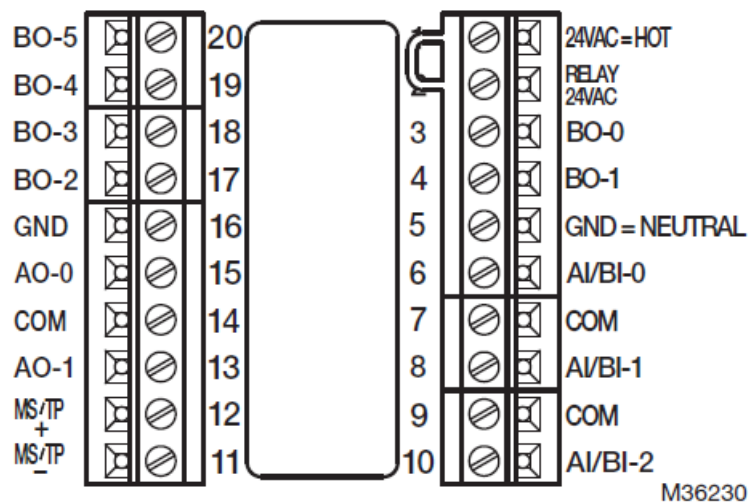

Fig. 4. Fixed Function Thermostat terminal assignments.
- 1. Connect wires to the terminal blocks. See Fig. 4 for terminal assignments and Table 1 for terminal descriptions.